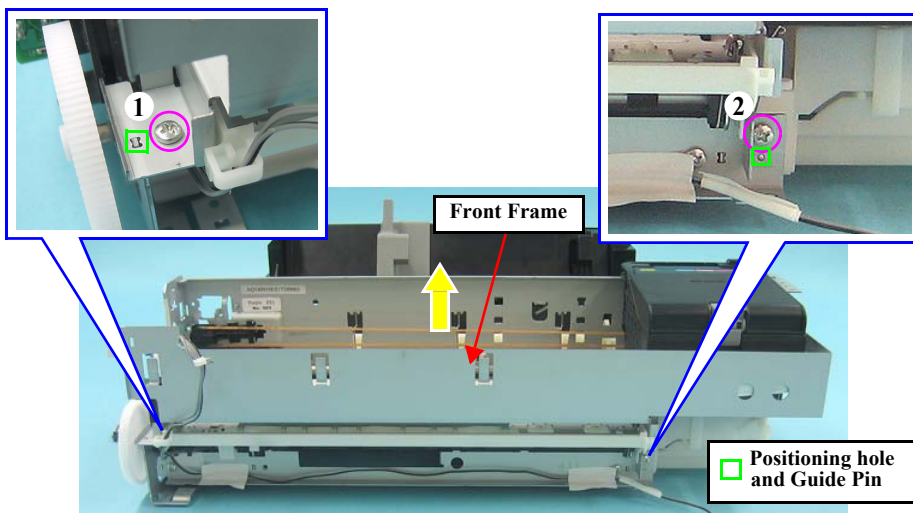

Figure 4-75. Removing the Front Frame
- When installing the Front Frame, match the positioning holes of the Front Frame with the guide pins of the Main Frame (two pairs), and tighten the screws in the order given in Fig.4-75 (p.85).